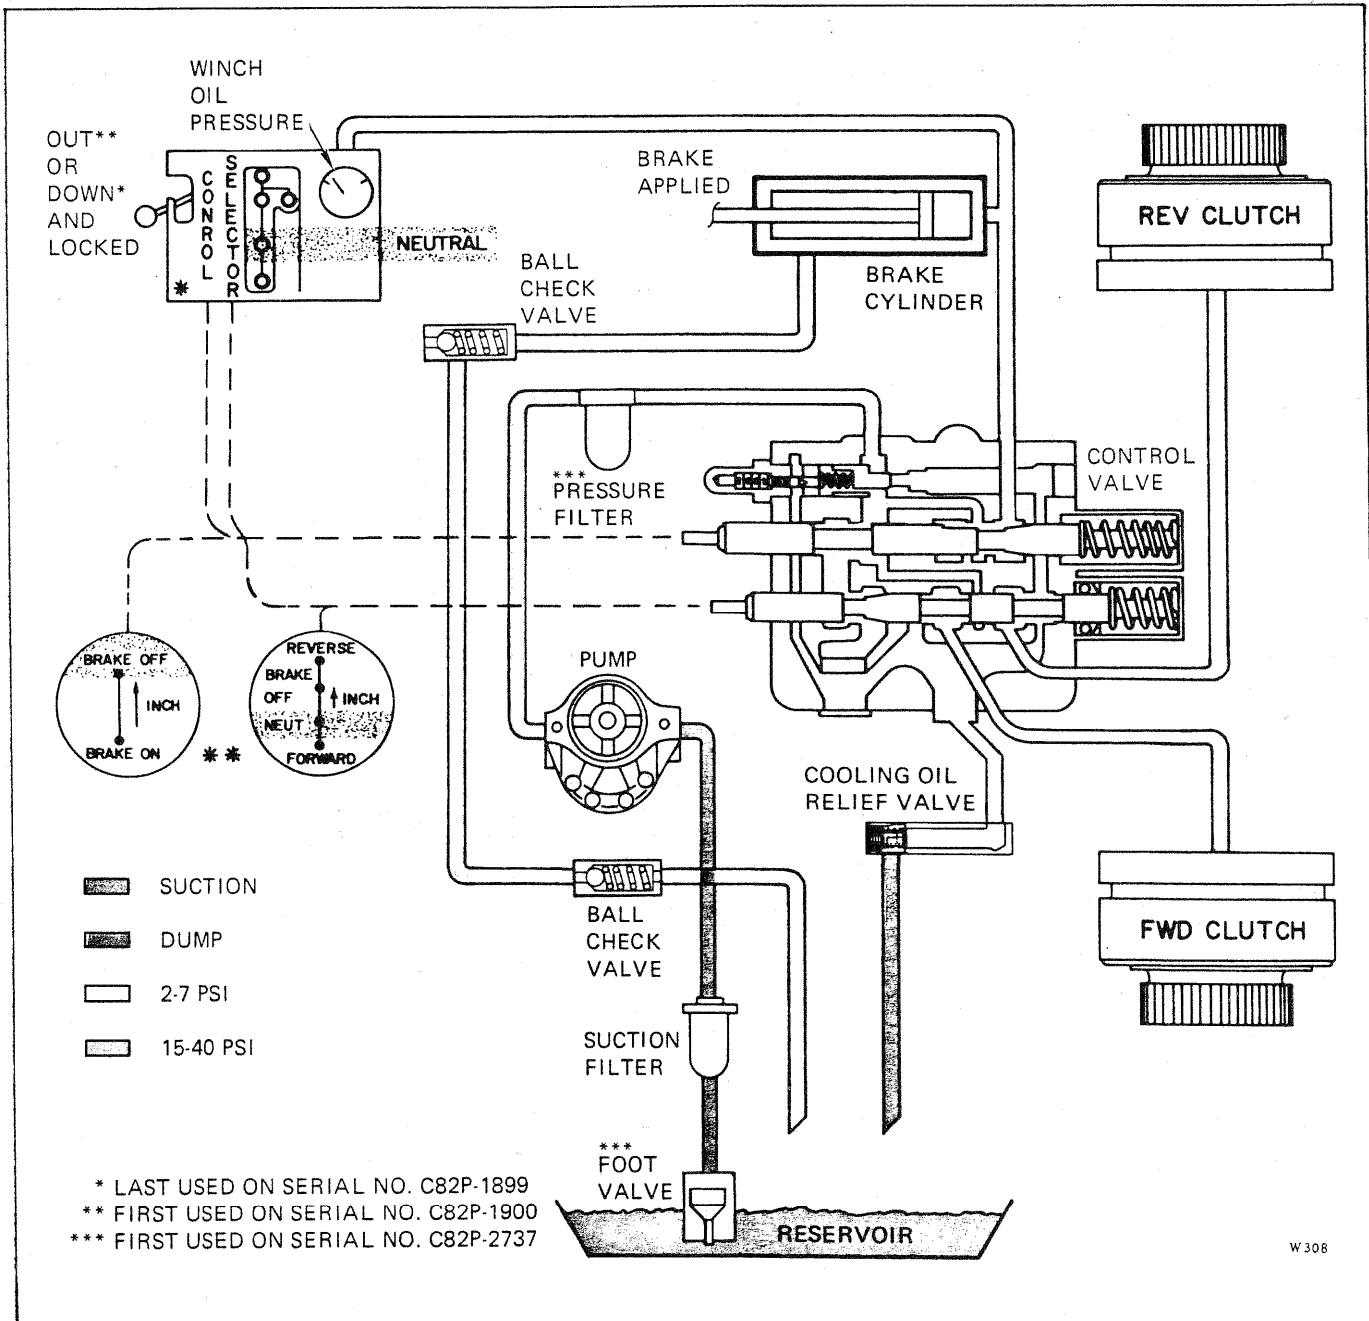

FIGURE 1-17. HYDRAULIC FLOW DIAGRAM, NEUTRAL, NORMAL OPERATION
1-38. HYDRAULIC SYSTEM IN NEUTRAL, NORMAL OPERATION. (See Figure 1-17.) On Early Production Handling Gear, the system is placed in NEUTRAL, Normal Operation by: (1) Moving the Control Lever Down and locking it in place and (2) Shifting the Selector Lever to the NEUTRAL position. On the later Production Handling Gear, this is accomplished by: (1) Locking the Inching Lever in BRAKE OFF and (2) Shifting the Selector Lever to NEUTRAL. When the Control Lever is locked in the Down position or the Inching Lever is locked in the BRAKE OFF position, the inching spool is pulled to its extreme Out position. With the Selector Lever in the